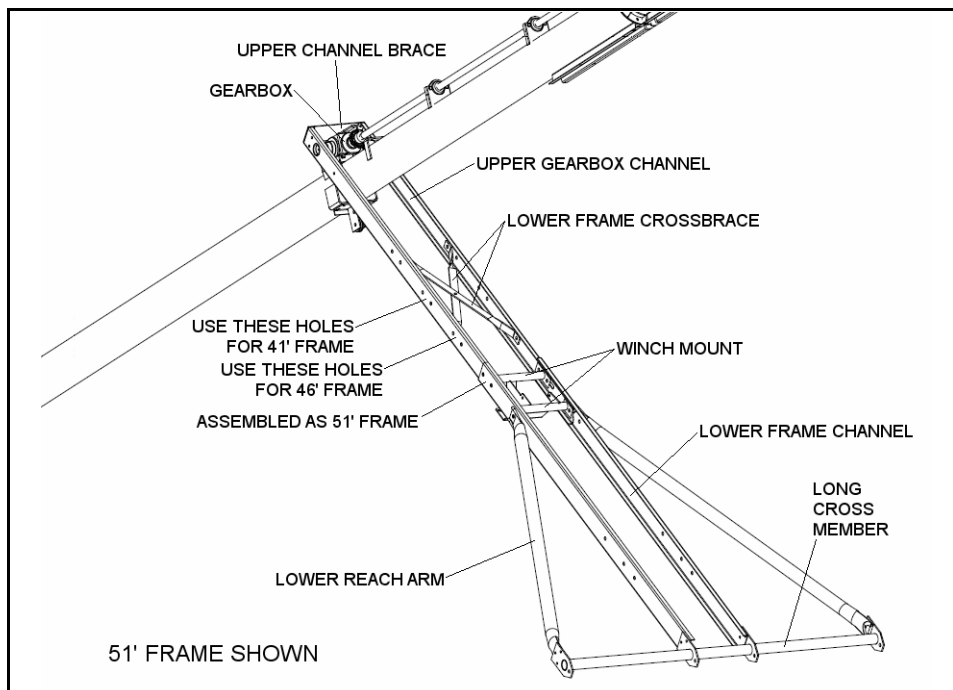

Figure 3.13 41', 46', and 51' Lower Frame Assembly
2. Attach upper channel brace onto the end of the upper gearbox channel at gearbox with four 7/16 x 1-1/4" bolts and locknuts; hand-tighten only (Figure 3.13).
3. Install lower reach arms on frame using 5/8" x 2" bolts (Figure 3.13). Let other end of reach arms rest on ground.
4. Attach long crossmember to bottom of lower frame channels and lower reach arms with twelve 7/16" x 1-1/4" bolts and locknuts. Ensure all nuts face inside of frame (Figure 3.13).